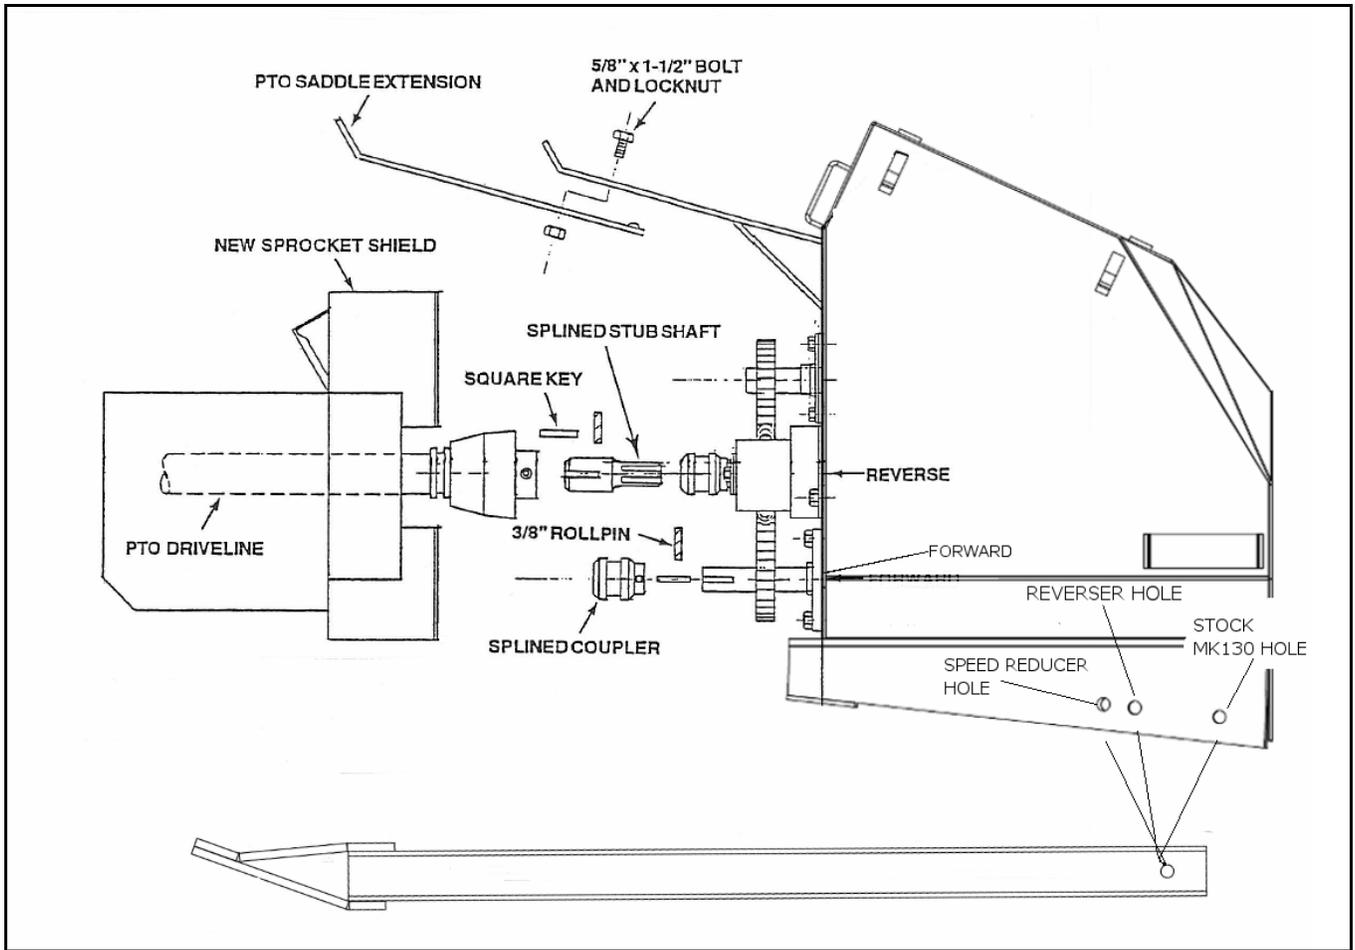

Figure 3
7. Install new sprocket shield using four 5/16" x 3/4" bolts. Discard old sprocket shield (Figure 3).